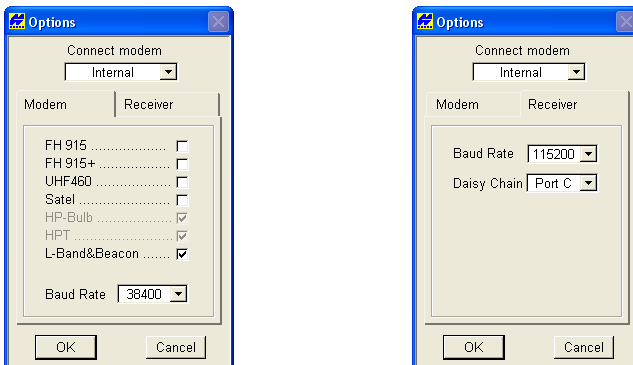

Figure 2-2. Set Map-RT Connection Parameters in Modem-TPS
2. Start Modem-TPS. Click **Cancel** then click **Tool ▶ Options**. Set the following connection parameters (Figure 2-2) and click **OK**: